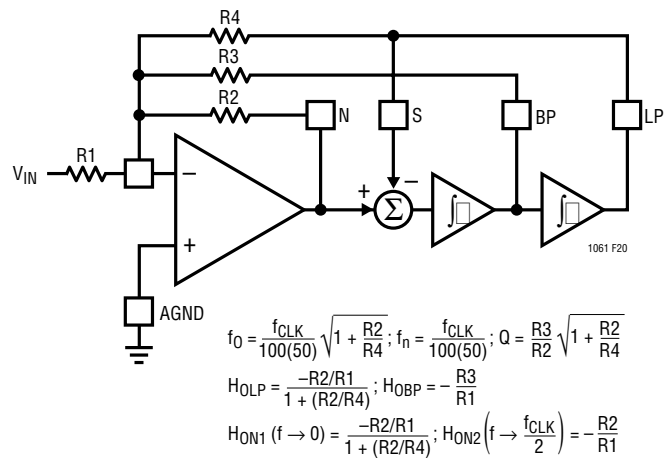

Figure 20. Mode 2: 2nd Order Filter Providing Notch, Bandpass, Lowpass
**Mode 2** – This is a combination of Mode 1 and Mode 3, Figure 20. With Mode 2, the clock-to-center frequency ratio,  $f_{CLK}/f_0$ , is always less than 50:1 or 100:1. When compared to Mode 3 and for applications requiring 2nd order section with  $f_{CLK}/f_0$  slightly less than 100 or 50:1, Mode 2 provides less sensitivity to resistor tolerances. As in Mode 1, Mode 2 has a notch output which directly depends on the clock frequency and therefore the notch frequency is always less than the center frequency,  $f_0$ , of the 2nd order section.